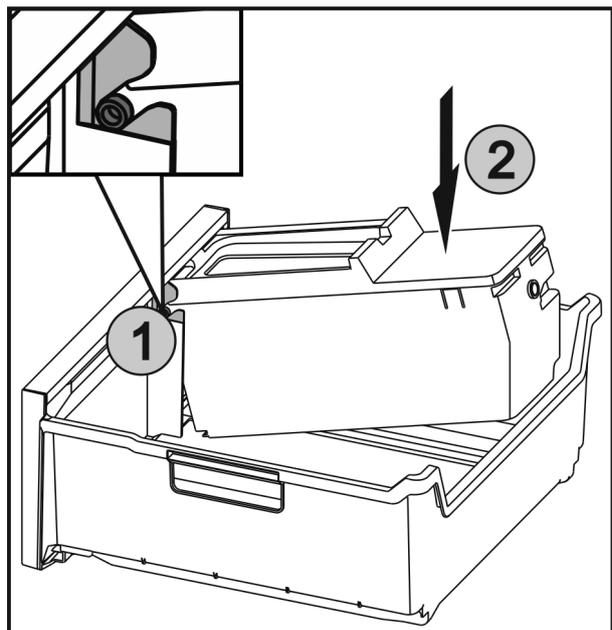

Fig. 83
- ▶ Insert the axles *Fig. 83 (1)* on the EasyTwist-Ice in the guides and push the rear side *Fig. 83 (2)* until the lug engages.